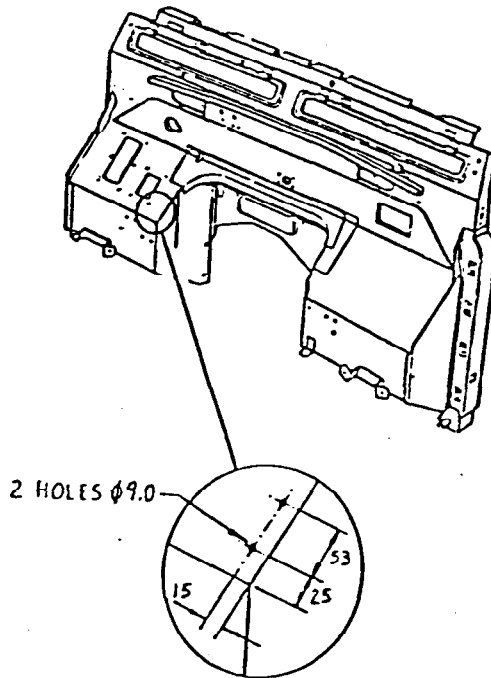

FIG 1 - TOOLBOX
- c. Mark and drill the two holes on the top of the right hand toolbox to the dimensions shown in Fig 1.